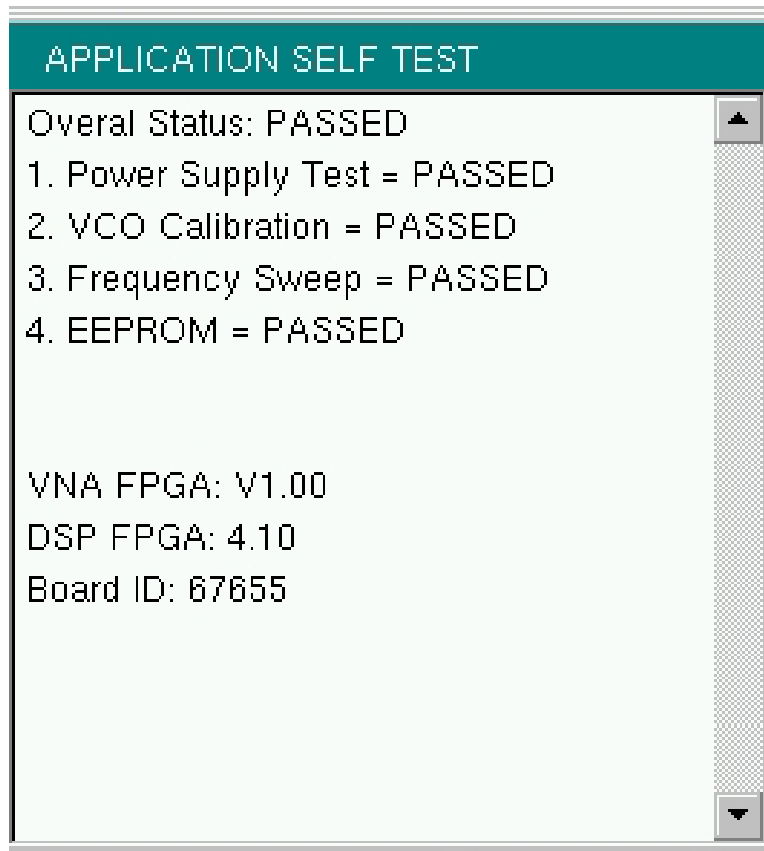

Figure C-2. Application Self Test Results Window (Vector Network Analyzer mode)
To run the application self test, press **Shift** and **System (8)** and then Application Self Test from within the desired mode. When you are in Vector Network Analyzer mode, you will see the results window that is shown in Figure C-2 (note that your instrument display may differ from this image), which summarizes the status of several primary functions that are specific to this application.